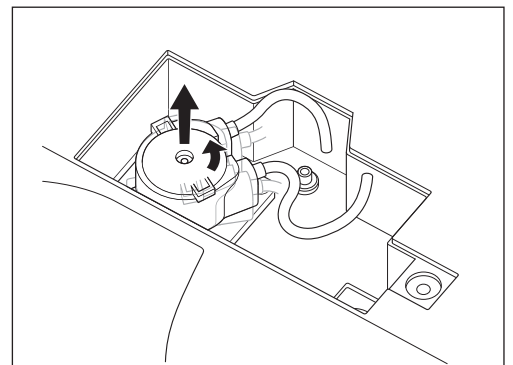

Fig. 52
- 5) Turn the Irrigation Pump counterclockwise until it clicks, and then pull it out (Fig. 52).